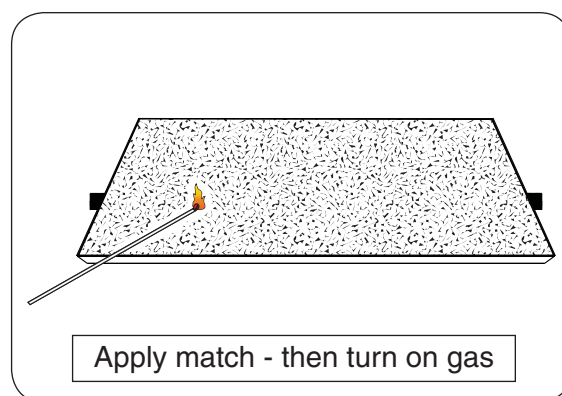

Fig. 17-1
3. Lay a lighted match on the center of the pan above the main burner (**do not hold the match in your hand**) or use a lighted long-stem match/long-necked butane lighter (Fig. 17-1).